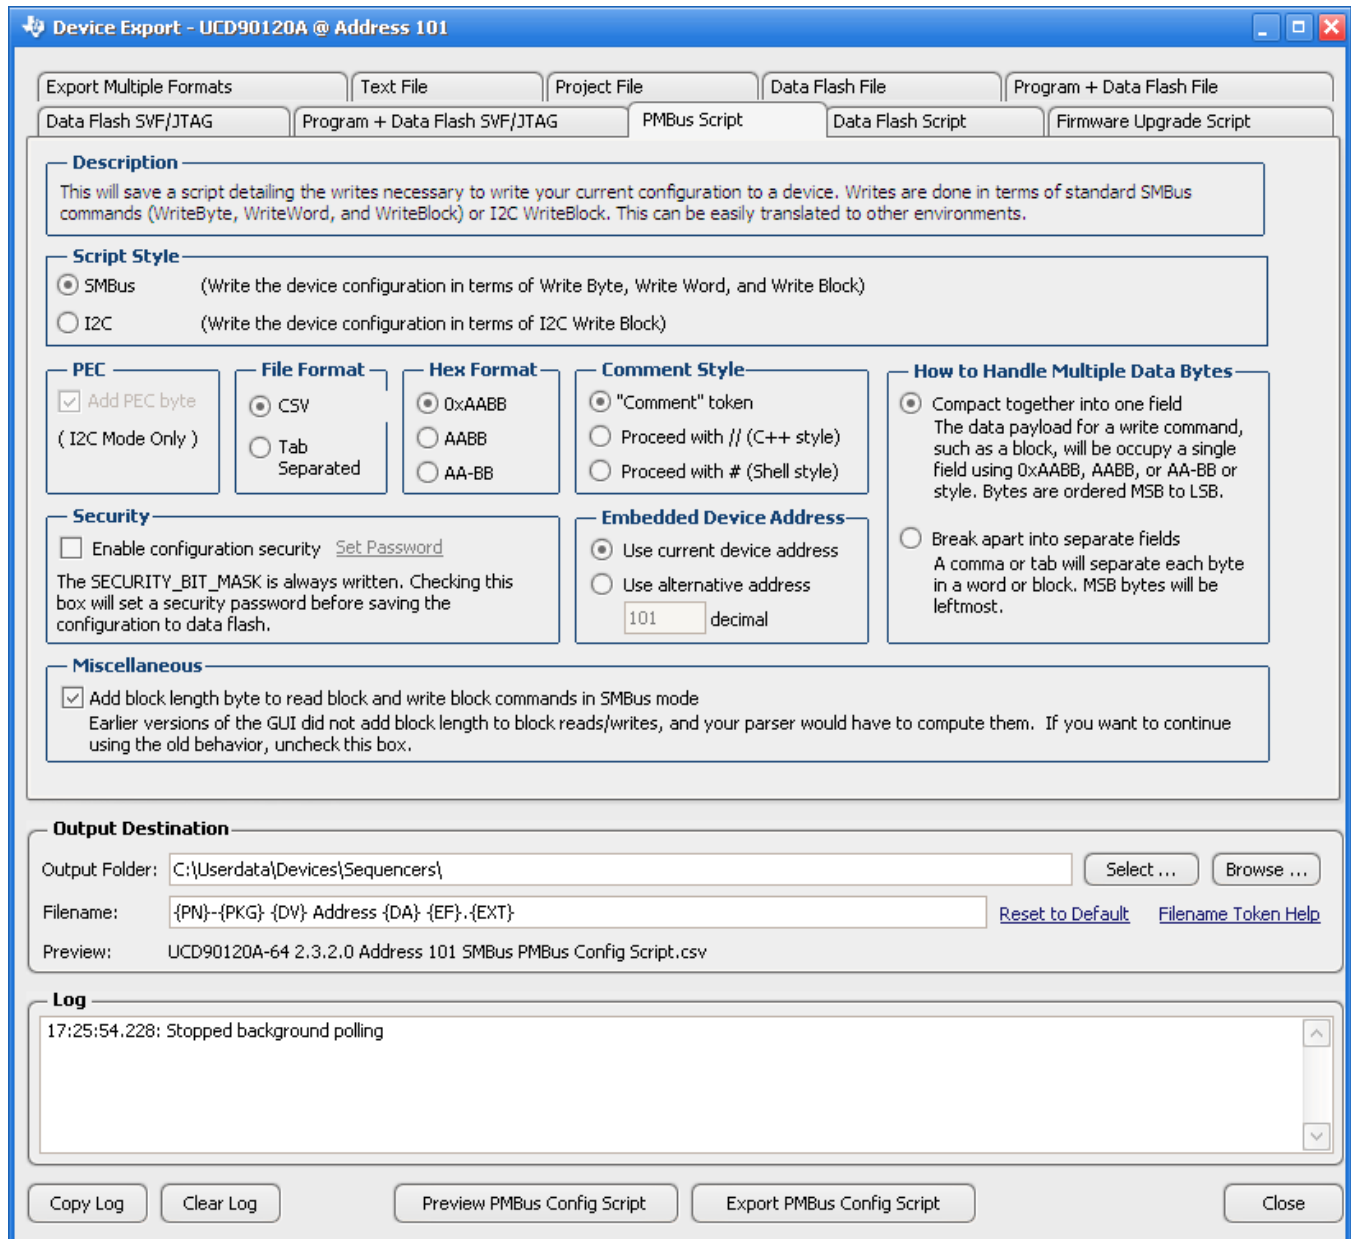

图 30. Fusion GUI PMBus Configuration Script Export Tool
2. The *Fusion GUI* (图 30) can create a PMBus or I2C command script file that can be used by the I2C master to configure the device.